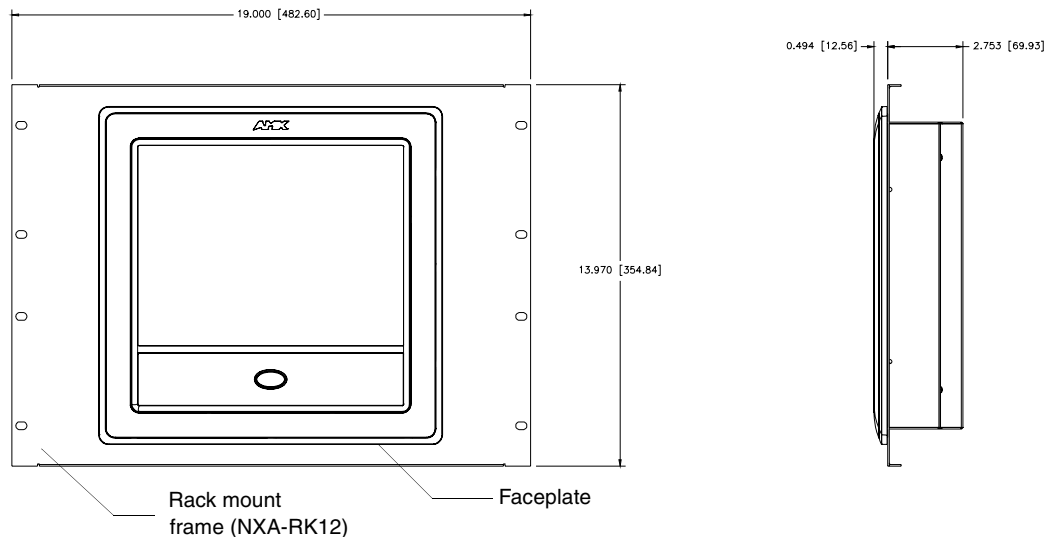

FIG. 42 NXD-1200V 12 inch Wall Mount panel installed into an NXA-RK12 Rack Mount Kit
6. Insert the main 12-inch Modero unit into an NXA-RK12 (FIG. 42).